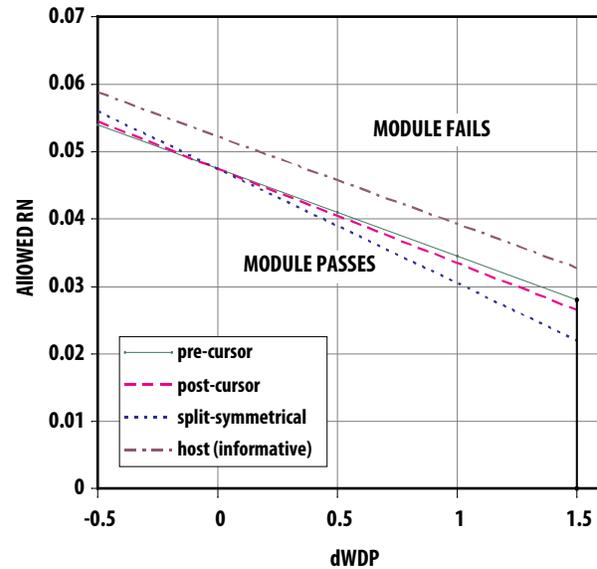

Figure 5. RN and dWDP compliance regions for LRM [proposed]
6. The following values for max RN are taken from Revision 3.0 of SFF8431 are subject to change; (the values of m and b are defined with reference to Figure 5).